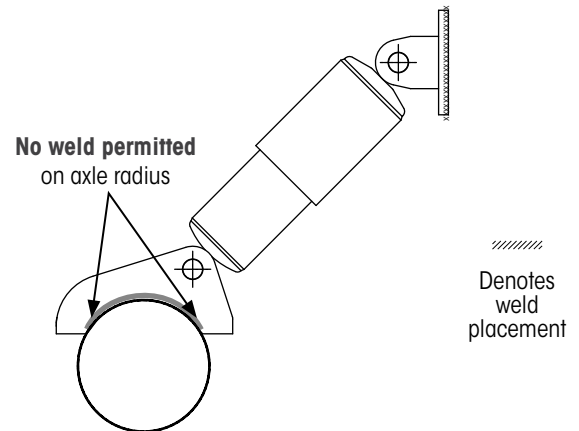
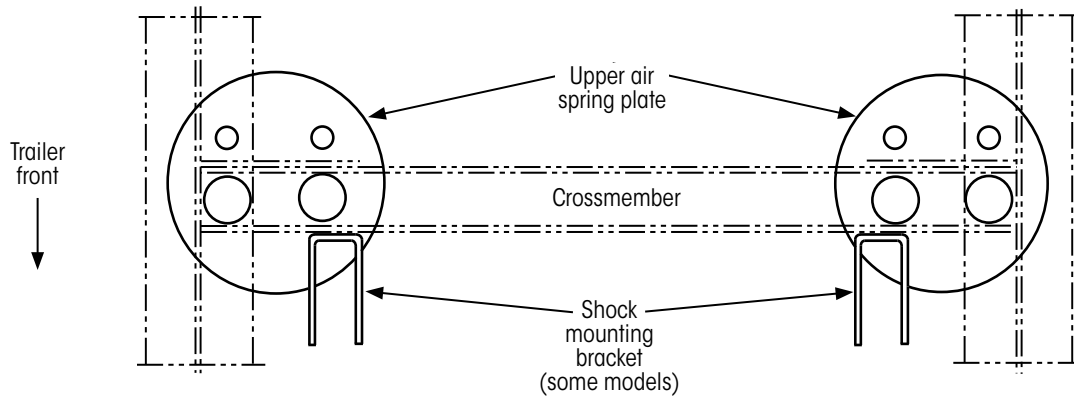

Figure 29: Rear facing shock mount example
Figure 31: Sample upper air spring plate installation
Configurations for shocks may vary depending on the type of HT™ Series suspension. Suspensions may be equipped with both front and rear shocks. The upper shock clevis for front shocks is typically located on the frame bracket. Rear shocks could be attached to the upper air spring plate, trailer frame or remotely mounted to an existing trailer crossmember as shown in Figure 29 and Figure 31 on page 20.
The lower shock clevis could be attached to the suspension beam or axle as shown Figure 29.
1. **Lift and position** upper air spring plates (Figure 31) onto both trailer frame rail and crossmember as specified in the supplied suspension installation drawing¹⁴.